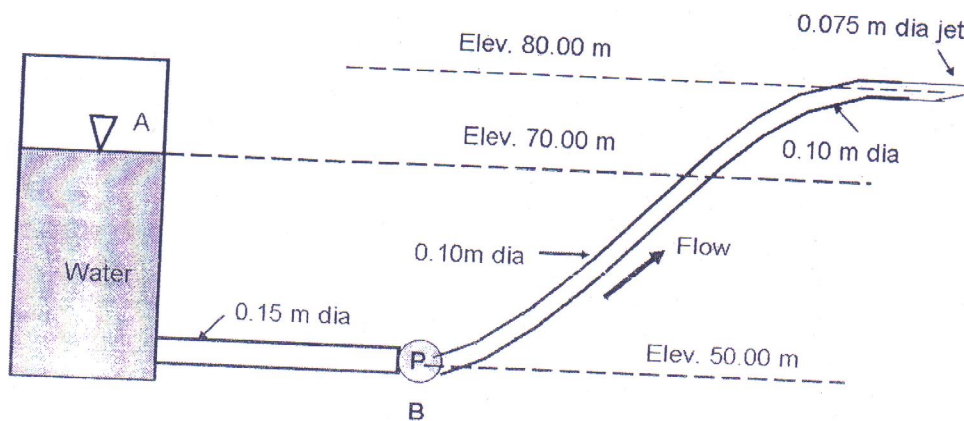

Figure-03
- b) A flow is defined by $u = 2xzy^2(1+t)$, $v = 3zyx^3(1+t)$, $w = 4xyz^2(1+t)$. What is the velocity of flow at the point (3,2,4) at $t=2$? What is the acceleration at that point at $t=2$? Specify units in terms of L and T. Check and state whether the flow is rotational or irrotational. (08)
- Q. 3 a) In a fire fighting system, a pipeline with a pump leads to a nozzle as shown in Figure-03. Find the flow rate when the pump develops a head of 30 m, given that we may express the friction head loss in the 0.15 m dia pipe by $h_f = \frac{5V^2}{2g}$ and the friction head (12)